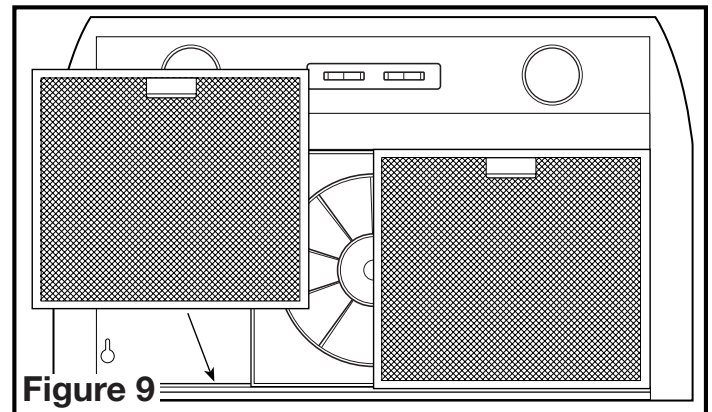

Figure 9
- Reinstall the filters by fitting them into the channel on either side of the hood and pushing upwards on them until they are secured in place (Figure 9).